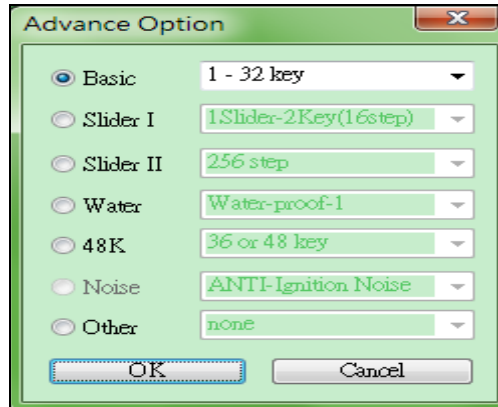
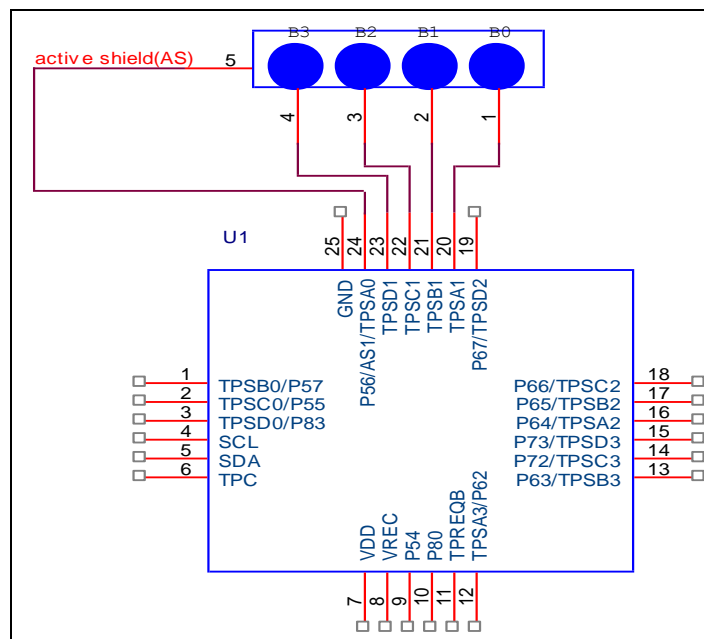

Figure 5-5a The 1~32 Key Number Option (Including One/Two Line Type)
Figure 5-5b One-Line Type Sensor Group Connections for 4 Touch Buttons
The eKTF5705 also supports One-Line type touch sensor which provides 16 touch button pins for user's application. The eUIDEII new project "Advance Option" checkbox must have the Basic option selected as indicated in Figure 5-5a below. A simple case of 4 touch buttons with Active Shield (AS) function that protects the system against environmental noise is depicted in Figure 5-5b below. User can activate the function with Register 0x13 (see Section 6.7.11). **The Active Shield (AS) acts as GND pin also**, but both pins (AS and GND pins) cannot be connected together. The scanning sequence for One-Line type sensor group always starts from TPSA1 to TPSD1, then TPSA2 to TPSD2, TPSA3 to TPSD3, and finally from TPSA0 to TPSD0. For Two-Line type sensor group, the scanning sequence is from TPSA1 to TPSD1, then TPSA2 to TPSD2, and finally from TPSA3 to TPSD3.